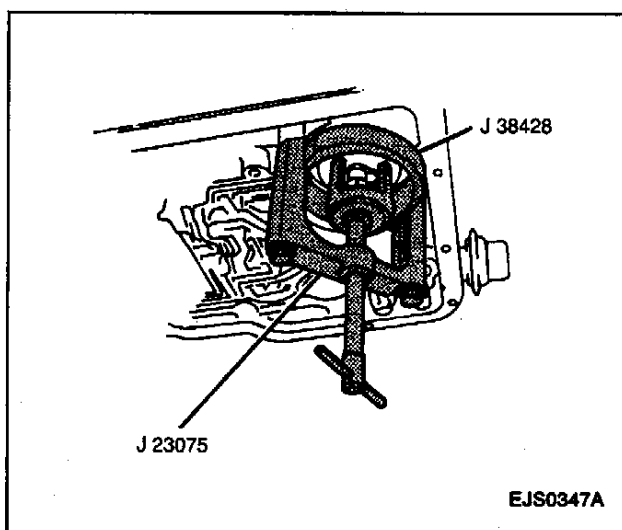

Figure 43—Installing Servo Piston Retaining Ring (3L30, 3-Speed)
7. The J 23075 in conjunction with a J 38428 onto the transmission case with the offset of the J 23075 facing toward the corner of the transmission (Figure 43).
8. Tighten the J 23075 until the servo piston retaining ring can be installed (Figure 43).